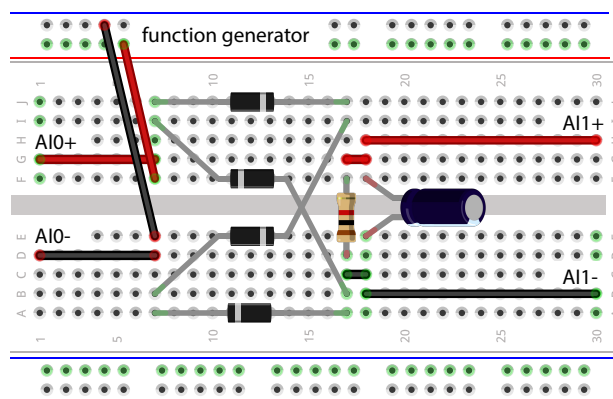

Figure 05.7: an example of how the breadboard circuit might look.
- 4. Build the circuit on a breadboard. It should look something like Figure 05.7.